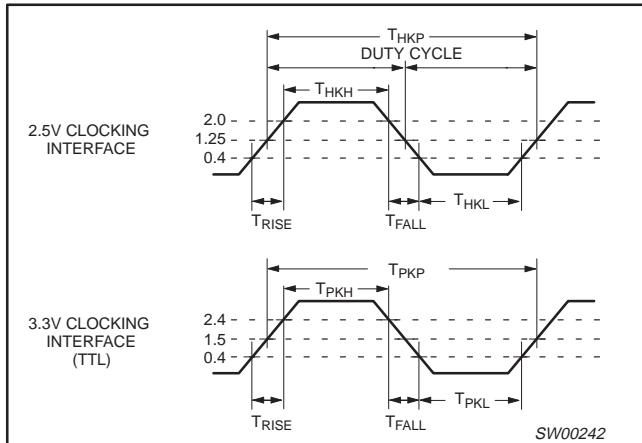

Figure 4. 2.5V/3.3V clock waveforms
5.  $T_{HKH}$  is measured at 2.0 V for 2.5 V outputs, 2.4 V for 3.3 V outputs as shown in Figure 4.
6.  $T_{HKL}$  is measured at 0.4 V for all outputs as shown in Figure 4.